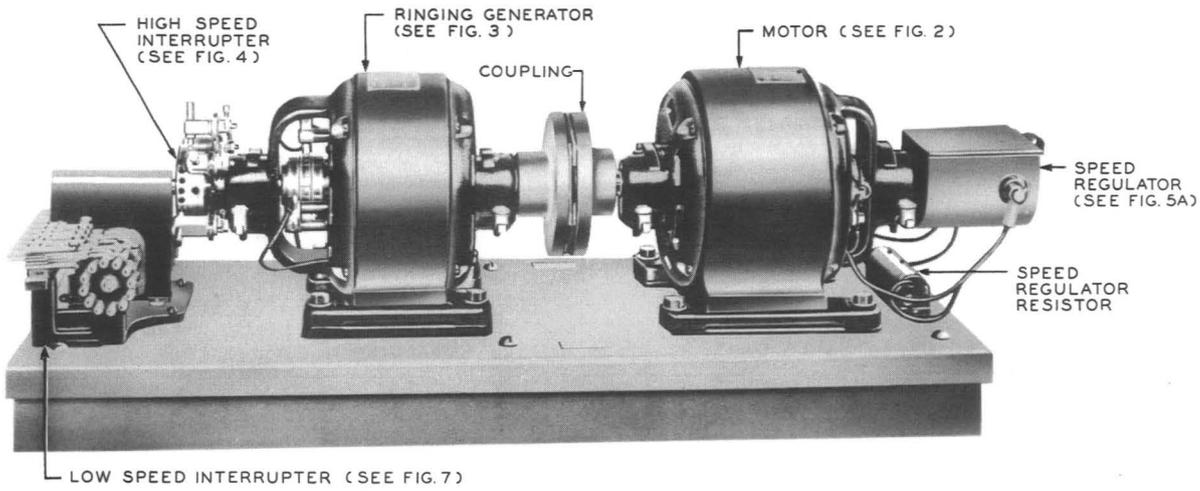

Fig. 1A - General Assembly KS-5133 DC Motor-driven Machine
(1) To replace the speed regulator contacts of the KS-5133 machine, remove the speed regulator according to 3.10(1). Loosen the screws that hold the spring assembly to the regulator frame. Remove both screws carefully, so as not to lose the associated nuts and washers. Replace and realign the new springs.
(2) To replace the speed regulator contacts of the KS-5133-01 DC machine, remove the speed regulator brushes. Mark the brushes so that the same brush may be inserted in the same position and in the same brush holder when reassembled. Remove the small "T" shaped plate from the coupling. This plate is located on the motor side of the coupling. Remove the two screws holding the speed regulator contact assembly. Remove the leads from the base and attach the leads to the new speed regulator contact assembly. Insert and fasten the assembly in the coupling, align the contacts so they are centered and replace the plate. Replace the brushes.
3.12 Speed Regulator Resistor (See Fig. 1A, 1B, and 9)
3.17 Motor Armature (See Fig. 1A, 1B, and 1C)